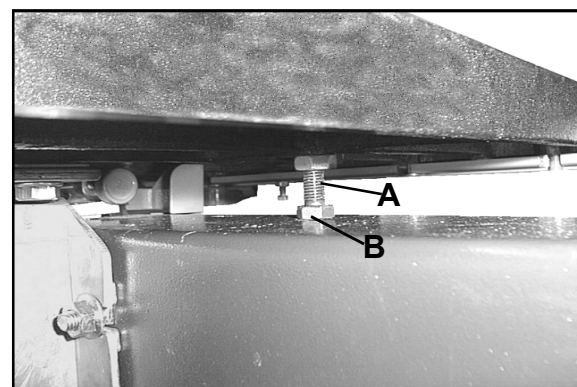

Fig. 11
The table stop screw rests on the top of the quick release adjustment stop. By first loosening the locking nut (A) and then adjusting the screw (B), the table can be set correctly. Re-tighten the locking nut (A) making sure that the setting is maintained. (See Fig.11)